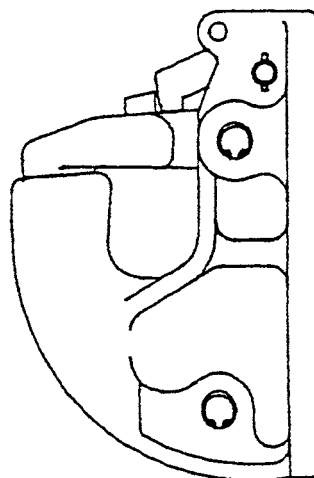

Fig. 1
1. Verify that the Shafts (5), Snap Rings (11), and Grooved Pin Rivets (12) are in place and secure. See Fig. 1 on pg. 2 for proper location of Snap Rings.
1. Install the Rivets by providing a back stop against the end of the Shafts on the snap ring side of the hook and driving the Rivets (12) into the holes provided in the end of the Shafts (eye protection required.) DO NOT USE THE SNAP RING TO BACK-UP THE RIVETING.
2. Install the Snap Rings (11) and inspect as shown in Fig.1.